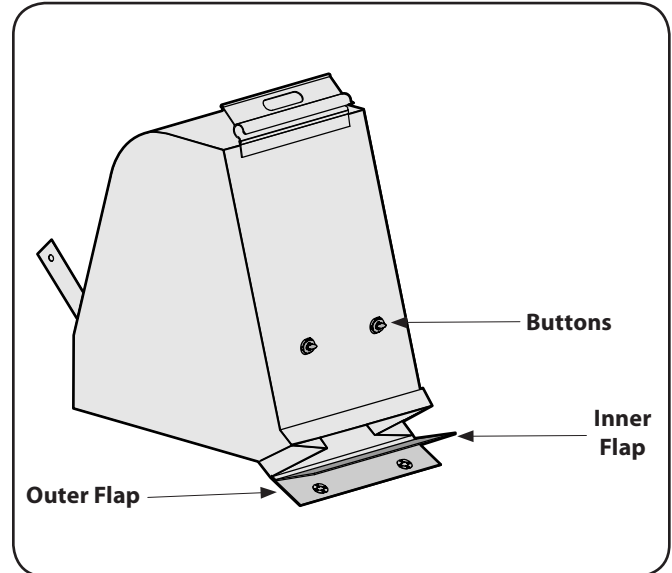

Figure 5-2
5. Twist the two buttons on the back of the bag to unlock and empty contents. See Figure 5-2. Hold bag handle and bag clip while emptying the contents.
7. Fold outer flap over inner flap and insert buttons on the bag through metal outlets. See Figure 5-2.